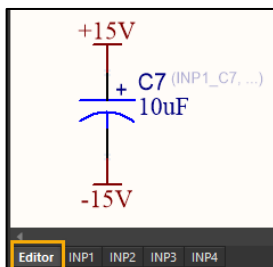

Figure 5. New tabs created in multi-channel schematic page
14. Open the `Input_channel.SchDoc` document and notice the 4 additional tabs that are now visible in the bottom left corner, as shown in Figure 5. The **Editor** tab is unchanged and allows the user to make any desired changes to the schematic.